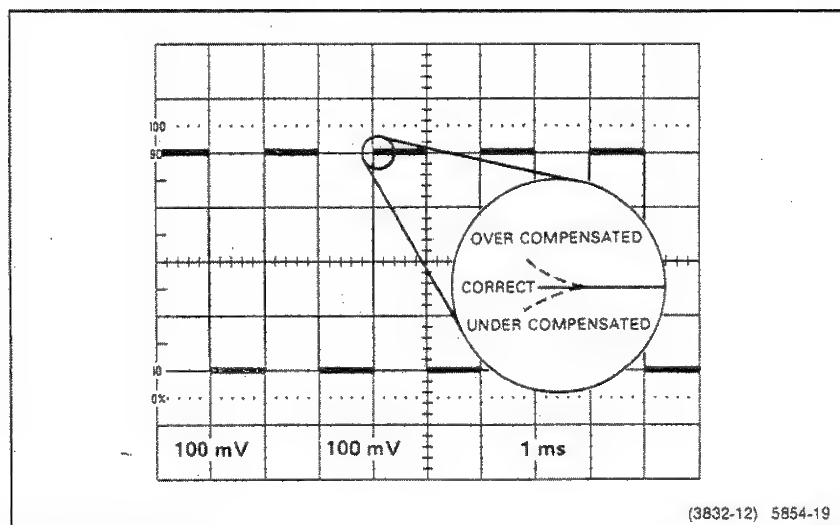

Figure 4-1. Probe low-frequency compensation.
4. Check the waveform for overshoot and rolloff (see Figure 4-1). If necessary, adjust the probe for a square front corner on the waveform, using the small adjustment tool supplied in the probe accessory package. Insert the tool through the small hole in the side of the box attached to the vertical input connector.